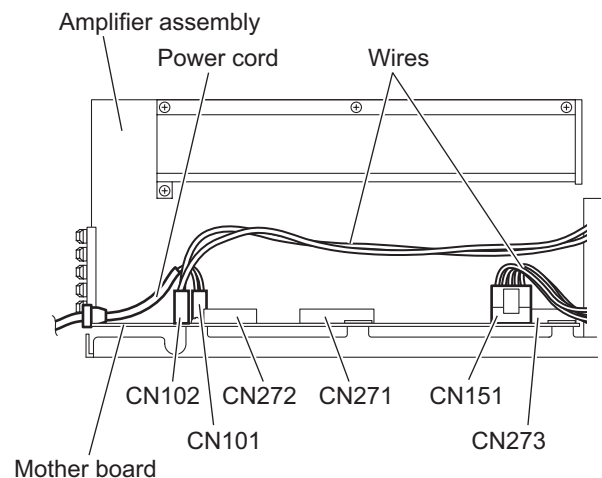

Fig.9
- (2) From the left side of the amplifier assembly, disconnect the wires from the connectors CN102 and CN151 on the mother board. (See Fig.9)
- (3) Disconnect the power cord from the connector CN101 on the mother board, and take out the power cord. (See Fig.9)
- (4) Disconnect the mother board from the connector CN271, CN272 and CN273 on the amp. board, and take out the mother board assembly from the amplifier assembly. (See Fig.9)